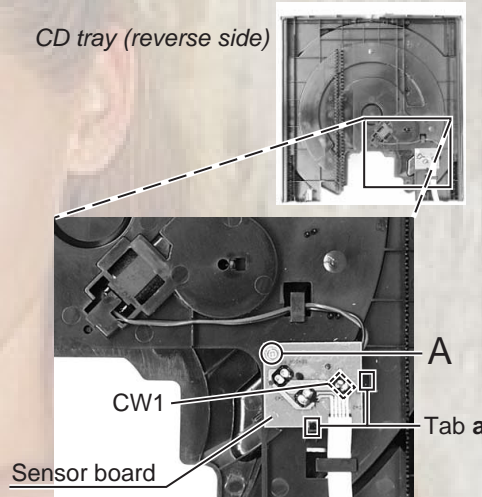

Fig.5
**Removing the sensor board (See Fig.5)**